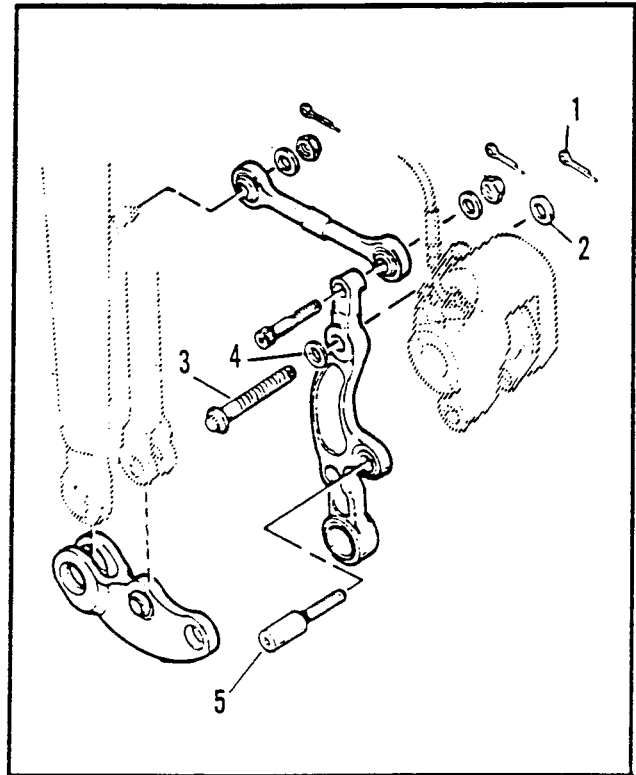

Figure 3. Brake Mounting FXSTS
1. See Figure 3. Remove cotter pin (1) and washer (2) from upper mounting bolt (3).
2. Remove upper (3) and lower (5) mounting bolts and washer (4).